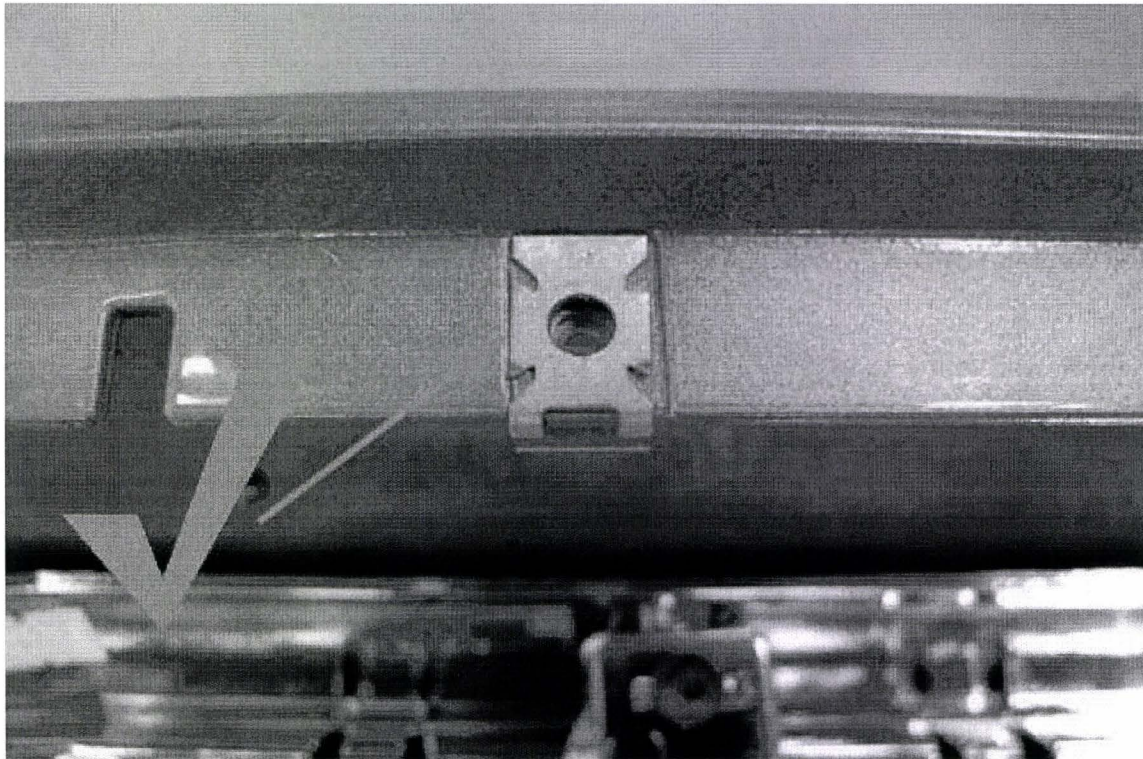

Figure 3
- Should the spring clips be found to be silver (Figure 3) these are correct and should not be replaced, please go to procedure 2